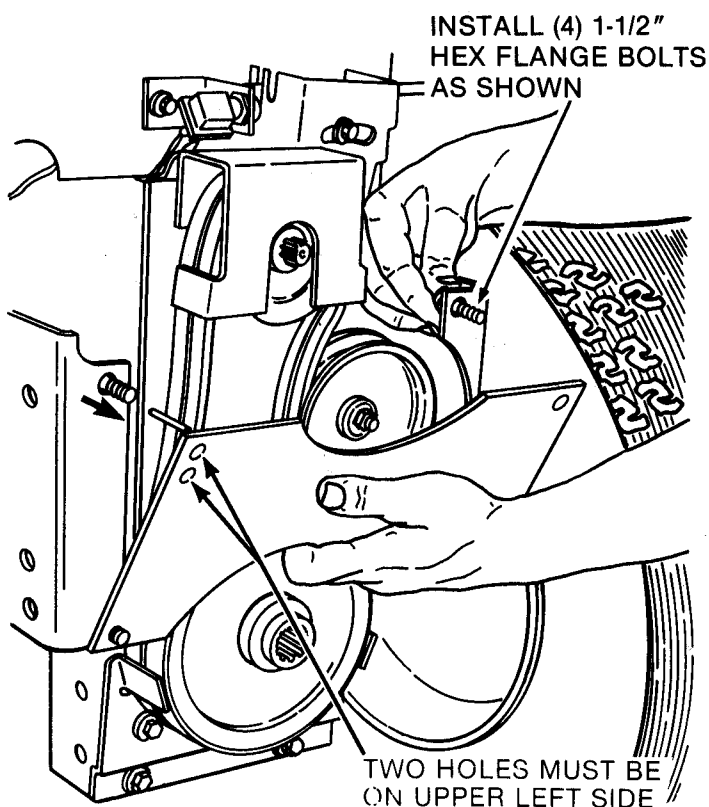

FIG. 8 - INSTALL COVER FROM KIT
Step 6: Install four 3/8 Cx1 1/2 hex flange lock bolts from inside of frame thru nuts welded into frame. Install rear cover on studs. Frame may have to be twisted to install(Figure 8).